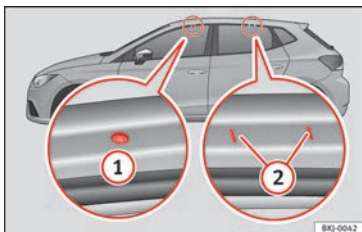

Fig. 143 Attachment points for the roof railings for the roof carrier system.
The front and rear attachment points ① and ② are only visible when the doors are open »» Fig. 143.